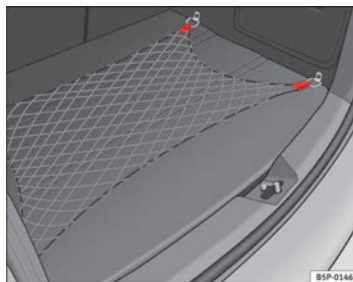

Fig. 107 Luggage compartment net
- Use the fastening rings located on the side of the luggage compartment to attach the storage net ⇒ fig. 107.